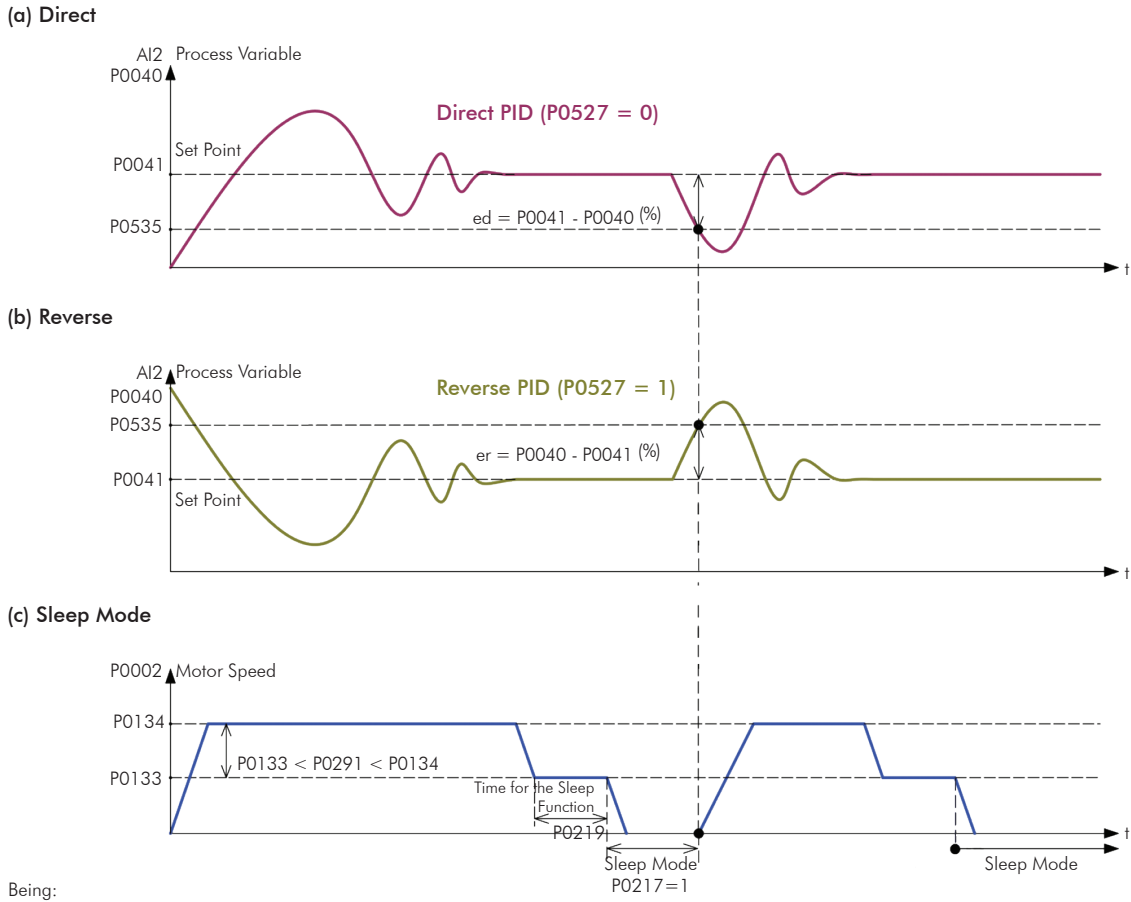

Figure 20.2 - (a) to (c) - PID action type
2) **To define the type of PID action** that the process requires: direct or reverse. The control action must be direct (P0527 = 0) when it is necessary that the speed increases for the process variable to increase. Otherwise, select reverse (P0527 = 1). See Figure 20.2 on page 20-4.
The sleep mode is a useful resource for saving energy when using the PID regulator. Refer to the Figure 20.2 on page 20-4.
However, the $P0291$ setting must be: $P0133 < P0291 < P0134$. Refer to the Figure 20.2 on page 20-4.